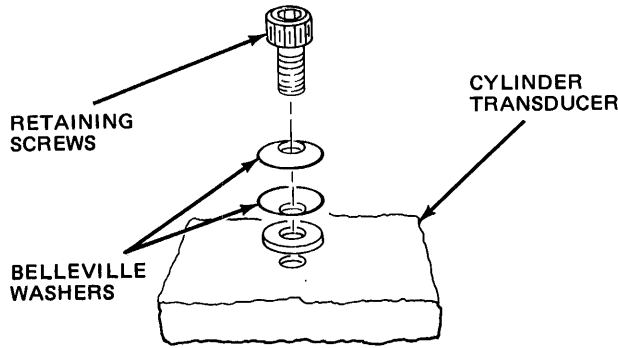

Figure 5-37. Cylinder Transducer Installation
- i. Install replacement transducer (see Figure 5-37).